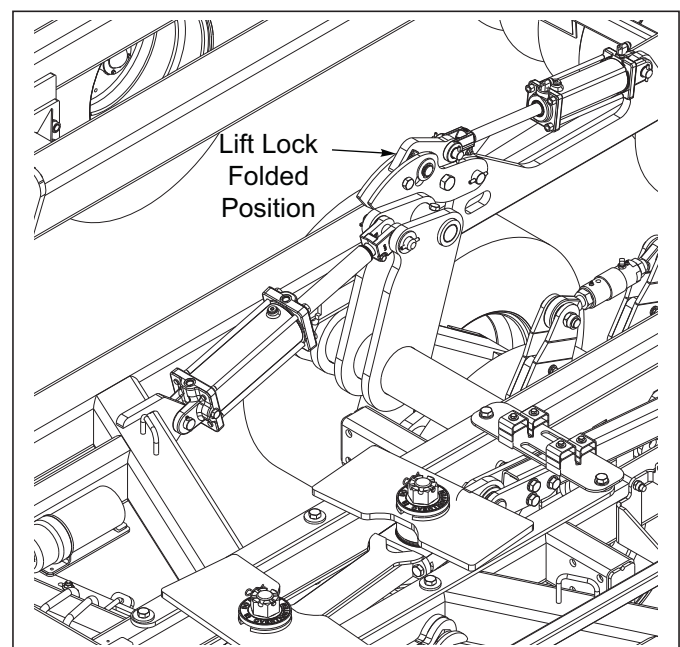

Figure 4-16: Lift Transport Locks
10. Folding the 7531 will engage both the wing fold locks and the lift transport locks. Visibly look to see that both transport locks are engaged **See Figure 4-16**.